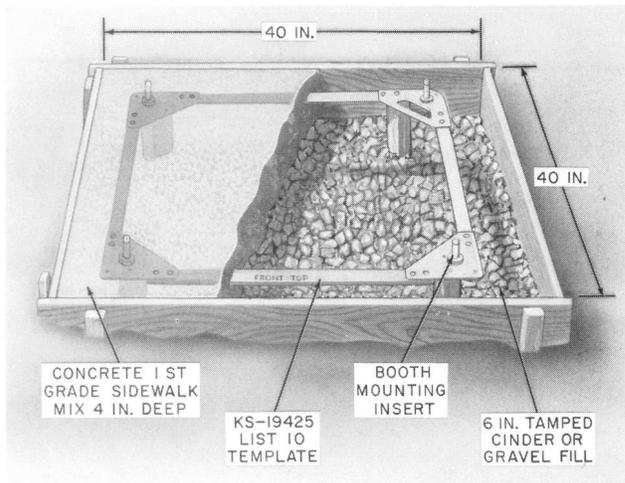

Fig. 17—Concrete Base Preparation with KS-19425, List 10 or List 20 Template
- (a) Prepare a form 40 inches square with an inside depth of 10 inches (Fig. 17).
- (c) Position the template in the form on wooden blocks so that the top of mounting inserts will be flush with top of concrete base as shown in Fig. 17.
- (a) If a KS-19425, List 10 or List 20 foundation template is used, remove insert plugs from template and secure leveling insert assemblies (Fig. 17) of booth to template using four 3/8-16 by 1-1/4 inch steel zinc plate hex head bolts, four 3/8-inch lockwashers, and four 3/8-inch flatwashers.